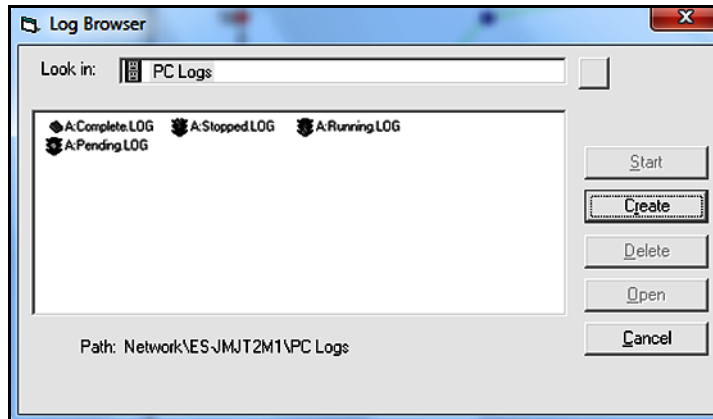

Figure 85: Selecting a Log File
2. Advance to either the “PC Logs” or “Meter Logs” dialog box as described in previous sections. Using a meter log as an example, a screen similar to that shown in *Figure 85* below opens.
Note that each of the log files in *Figure 85* above has a traffic light icon or a book icon next to its name. These icons indicate the current status of the log as follows:
- **Book** - The log has run to its specified stop time and is complete (see **A:Complete.LOG** in *Figure 85* above).
- **Red Light** - The log has not run to its specified stop time but has been manually stopped (see **A:Stopped.LOG** in *Figure 85* above).
- **Yellow Light** - The log has been set up but the specified start time has not yet been reached (see **A:Pending.LOG** in *Figure 85* above).
- **Green Light** - The log is currently running but is not yet complete (see **A:Running.LOG** in *Figure 85* above).